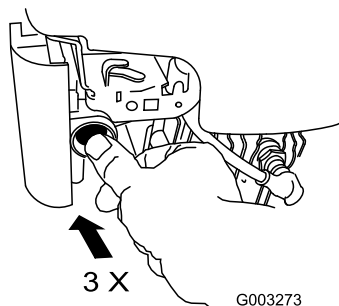

Figure 16
1. Firmly push in the primer 3 times with your thumb, holding the primer in for a second before releasing it each time (Figure 16).